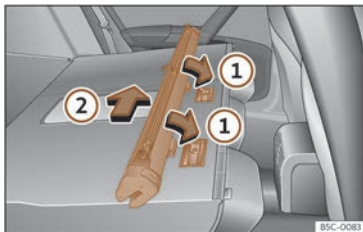

Fig. 183 Assembling the net partition in the rear seat backrests.
- Place the net casing in the rail slots in the direction of the arrows >>> **Fig. 183 ①**.
- Push the casing towards the left side of the vehicle in the direction of arrow >>> **Fig. 183 ②**
- Pull the net casing out approximately 5 cm in the opposite direction to the arrow >>> **Fig. 183 ②**.
- Remove the casing from the rails by pulling in the opposite direction to the arrows >>> **Fig. 183 ①**.